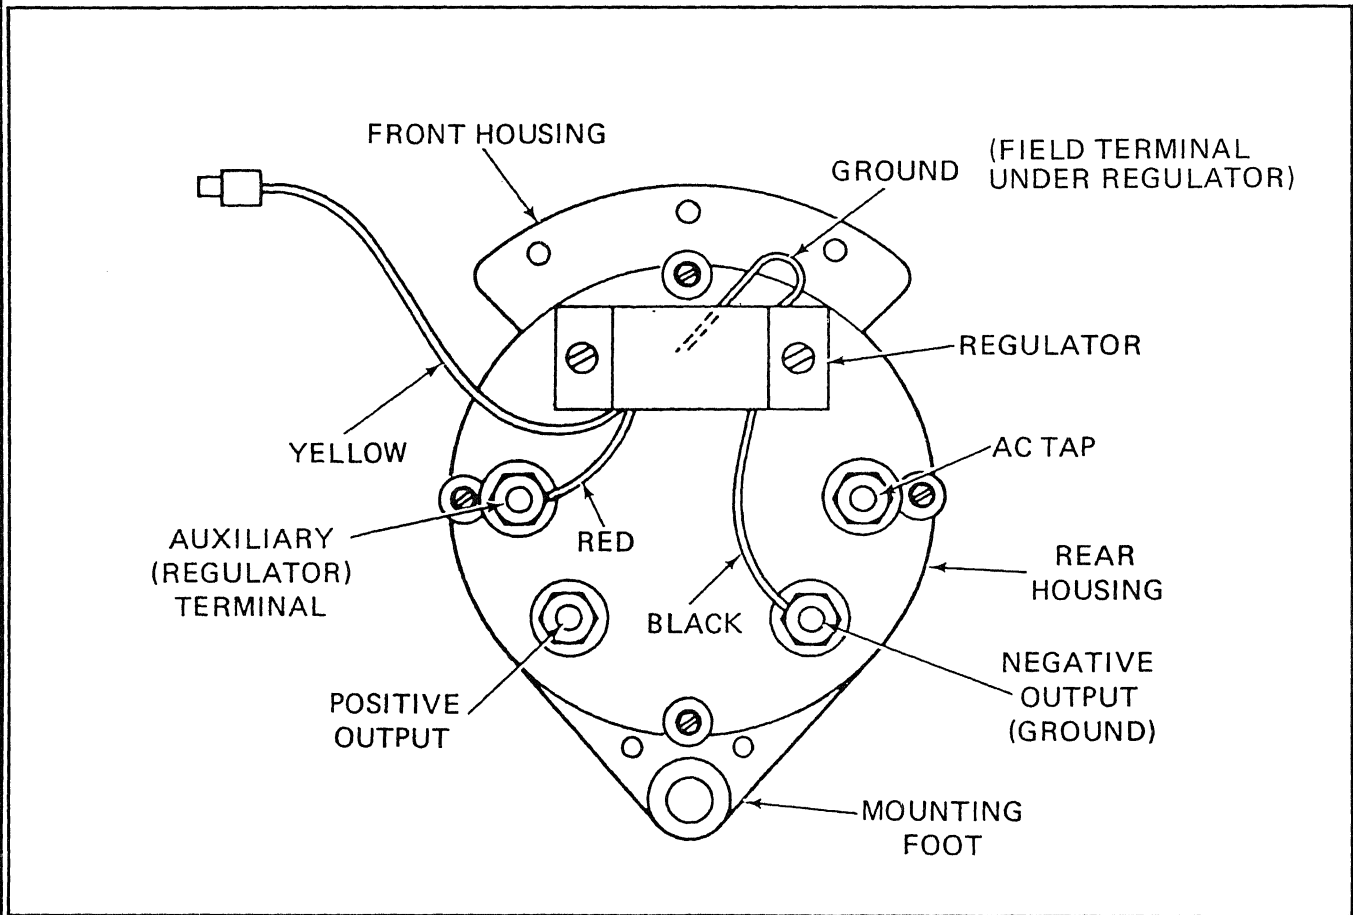

Figure 5-28.1 Alternator Terminal Identification
- (5) Prior to testing, connect test ammeter in series with positive output terminal of alternator and original output lead. Switch meter range to the 0 to 60 ampere scale and dress connecting leads to avoid damage from hot manifolds or engine V-belt. Meter polarity is reversed during some tests, note this information in each procedure.
- (6) Alternator and regulator tests require electrical test equipment to measure voltage, current and resistance. Table 5-3.1 contains a list of this equipment.
- (7) The following tests are made with alternator installed on test stand. Figure 5-28.1 shows terminal arrangement at rear of alternator for terminal identification.